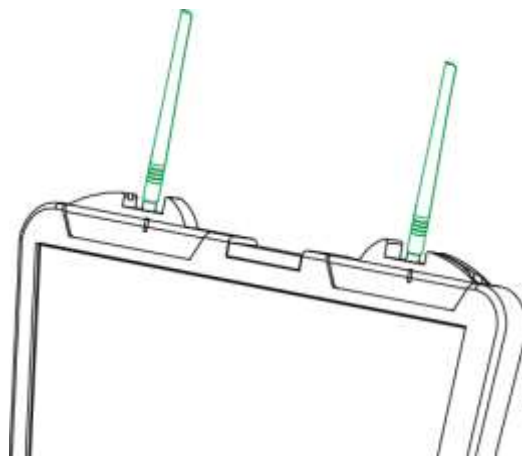

Figure 3-19
Step 4 Twist the relay antennas into the ports of ground station, and adjust them to vertical position, as shown in Figure 3-19.